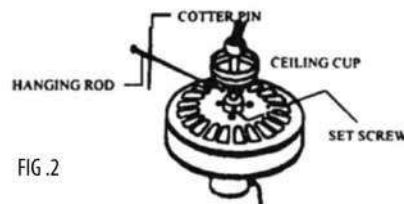

FIG.2
3. Insert stem into fan and align through-holes for hanging rod. Insert cotter pin into hole and bend back the ends to fasten. To avoid rattle, make sure ends of cotter pin do not rest on motor housing as shown in Fig2.